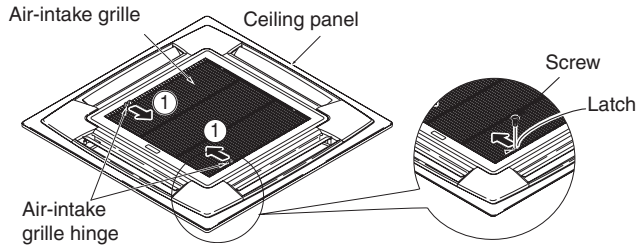

Fig. 7-1
- 1) Remove the 2 screws on the latch of the air-intake grille. (Fig. 7-1) (Reattach the air-intake grille after installation of the ceiling panel.)
- 2) Slide the air-intake grille catches in the direction shown by the arrows ① to open the grille. (Fig. 7-1)